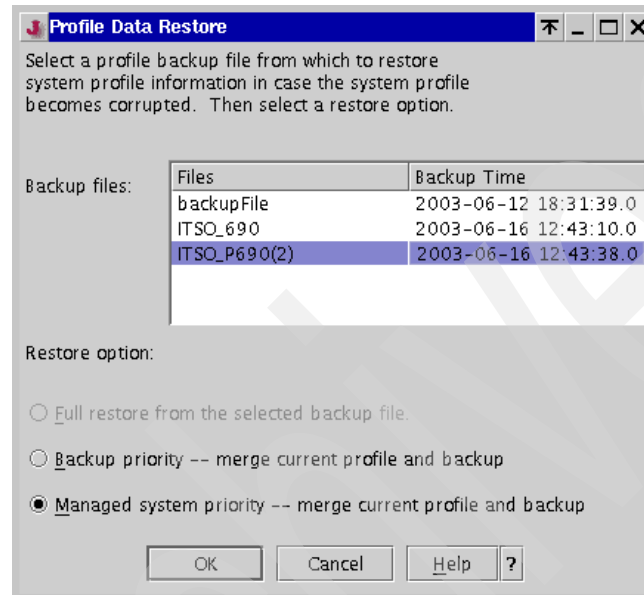

Figure 5-4 Profile Data Restore window
2. From the menu bar, choose **Selected** → **Profile Data** → **Restore**. This opens the Profile Data Restore window shown in Figure 5-4.